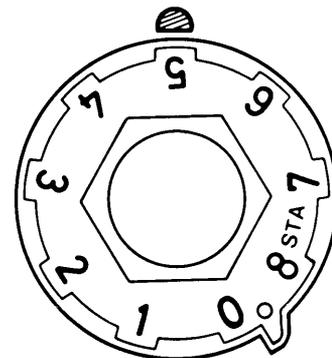

Fig. 2
3. Turn the scale clockwise so that the desired pre-setting digit 5 comes opposite the indicator of the knob (Fig. 2).
To check the presetting of a valve, close it fully, when the indicator of the knob shows the presetting digit, in this case 5 (Fig. 2).